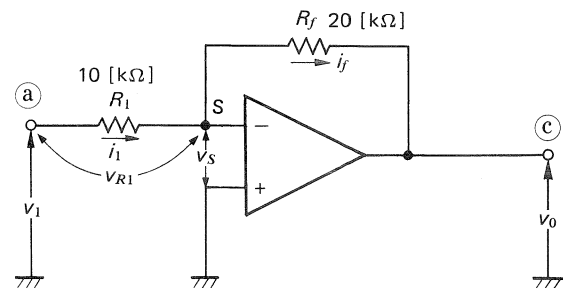

Fig. 2 Inverting Amplifier
Fig. 2 shows an inverting amp. By grounding the (+) terminal and applying v_1 (input signal) to the (-) terminal, we can obtain an inverted and amplified signal, v_o , at the output. Let's look at the relationship between v_1 and v_o . Assume that voltage difference between the (+) and (-) terminals is v_s . If 1V is applied to (a), the voltage v_{R1} across R_1 and the current i_1 through R_1 become:
In Fig. 2, the moment when v_1 is applied to \textcircled{a} , a voltage lower than v_S appears at the (-) terminal (S). v_S appears, although it is very small because both input terminals are imaginary shorted. v_d is amplified. A large voltage appears at the output because the gain of the op amp is infinite. Much of the output voltage however, is negatively fed back to (S) via R_f to cancel the input signal and to balance the circuit. v_S decreases. The output decreases. Feedback voltage decreases. v_S increases again. This circular operation is performed repeatedly until the output voltage stabilizes at a certain point.